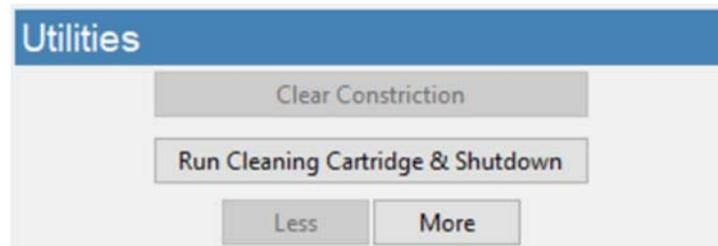

Figure 8. Utilities frame.
- Press the "Clear Constriction" button (Figure 8) and wait for the routine to complete.
- Press the "Run Cleaning Cartridge & Shutdown" button (Figure 8) to begin the automated process.